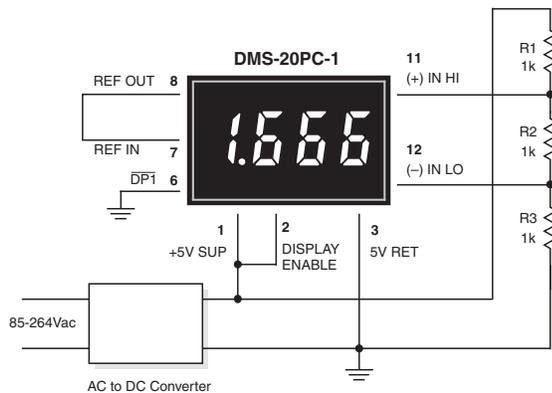

Figure 3. Differential Input Configuration
2. Differential Input Configurations: Differential measurements can be made with all DMS-20PC meters. Figure 3, though not a practical real-world application, uses a voltage divider to demonstrate the concept of a differential input signal. Be careful not to exceed the ±2V common mode voltage limitation for 5V-powered meters.